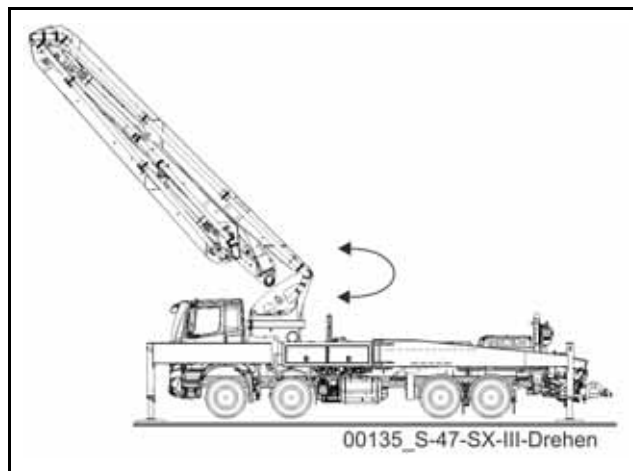

Fig. 173 Turning the placing boom
- Turn the boom package to the required working position (**Fig. 173**).